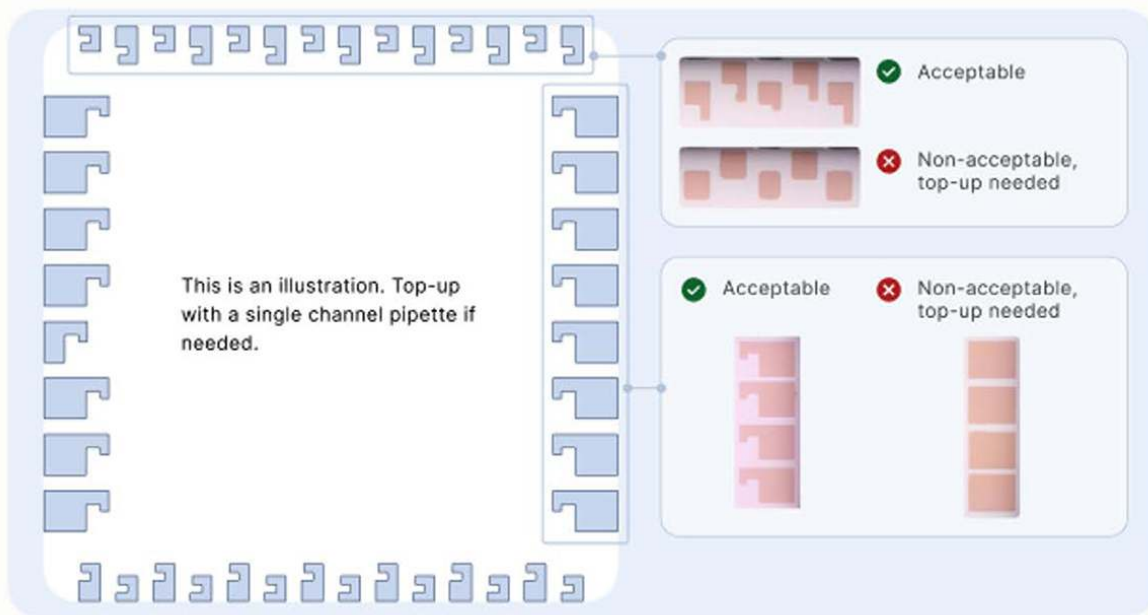

Figure 28: Check the reservoirs have formed correctly on the cartridge
3. Inspect the reservoirs have formed correctly in the cartridge as shown on the screen. If so, Press the **[Next]** button (Figure 28).